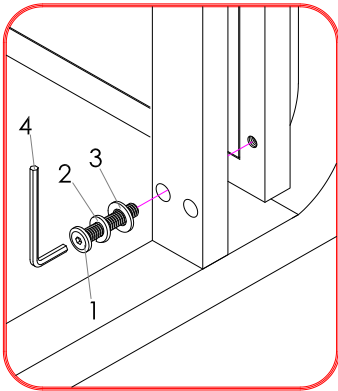

FIGURE 03
4. Remove the mini fix lock from the mini fix nut (6), as per illustrated in **FIGURE 02-B**. Insert the minifix nuts into the holes on bottom of stretcher (A5), then use a screwdriver to adjust the minifix nut to make sure the hole on it is aligned with the bore hole on the end of the stretcher, as per illustrated in **FIGURE 03-C**.
6. Attach the Shelf frame 1 (A3) into the side frame, align and insert Allen bolt (1) together with lock washer (2) and flat washer (3) to each fixed nuts under top through the hole on the side frame. Tighten all the bolts by using wrench (4). **DO NOT FULLY TIGHTEN.** See **FIGURE 03**.